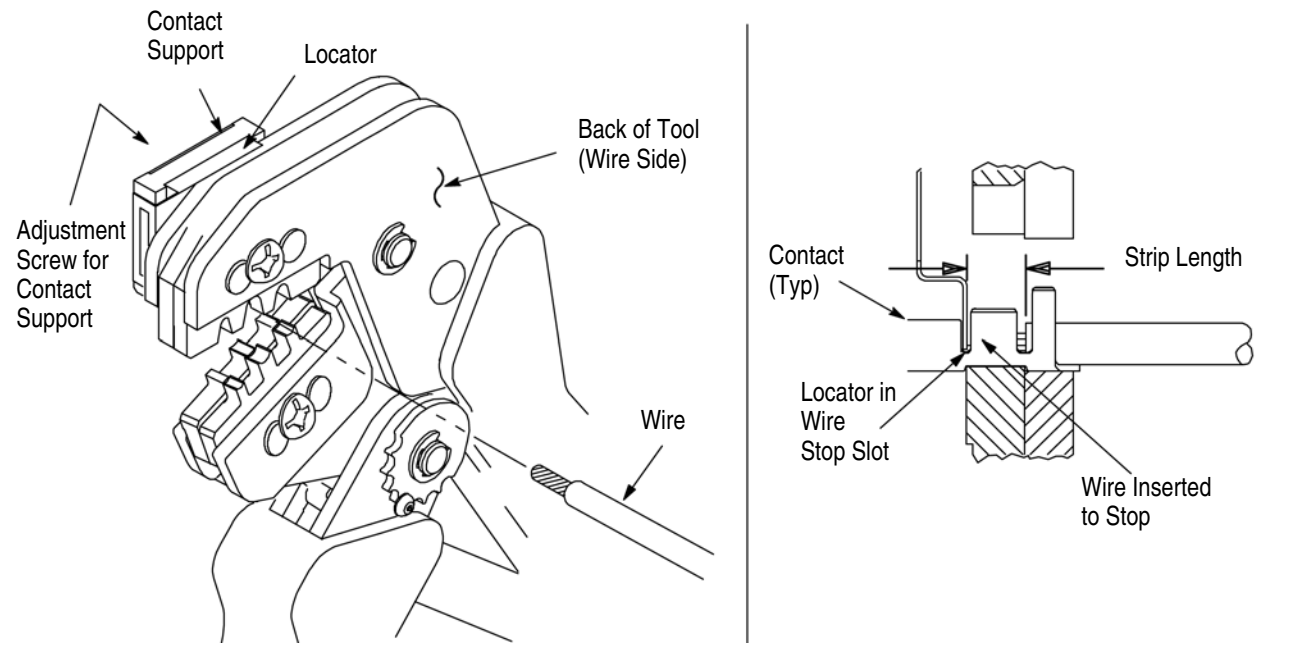

Figure 3
4. CONTACT SUPPORT ADJUSTMENT (Figure 3)
Refer to the table in Figure 1 and select wire of the specified size and insulation diameter. Strip the wire to the length indicated in Figure 1, taking care not to nick or cut wire strands. Select an applicable contact and identify the appropriate crimp section according to the wire size markings on the tool. Refer to Figure 3 and proceed as follows:
3. Position the contact so that the mating end of the contact is on the locator side of the tool, and so that the open "U" of the wire and insulation barrels must face the top of the tool. Place the contact up into the nest so that the movable locator drops into the slot in the contact. Refer to Figure 3. Butt the front end of the wire barrel against the movable locator.
5. Insert stripped wire into contact insulation and wire barrels until it is butted against the wire stop, as shown in Figure 3.
NOTE The crimped contact may stick in the crimping area, but the contact can be easily removed by pushing downward on the top of the locator (see Figure 3).